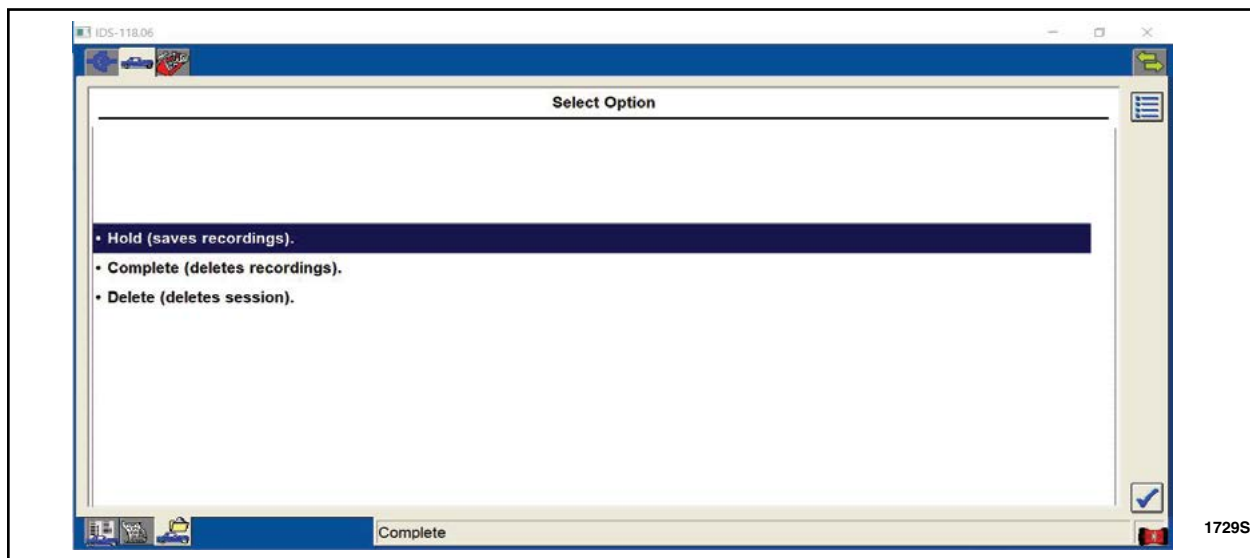

FIGURE 16
- One picture of the Vehicle Certification (VC) Label showing the Vehicle Identification Number (VIN).
- IDS Log file in PDF format. See Figure 16 and 17.